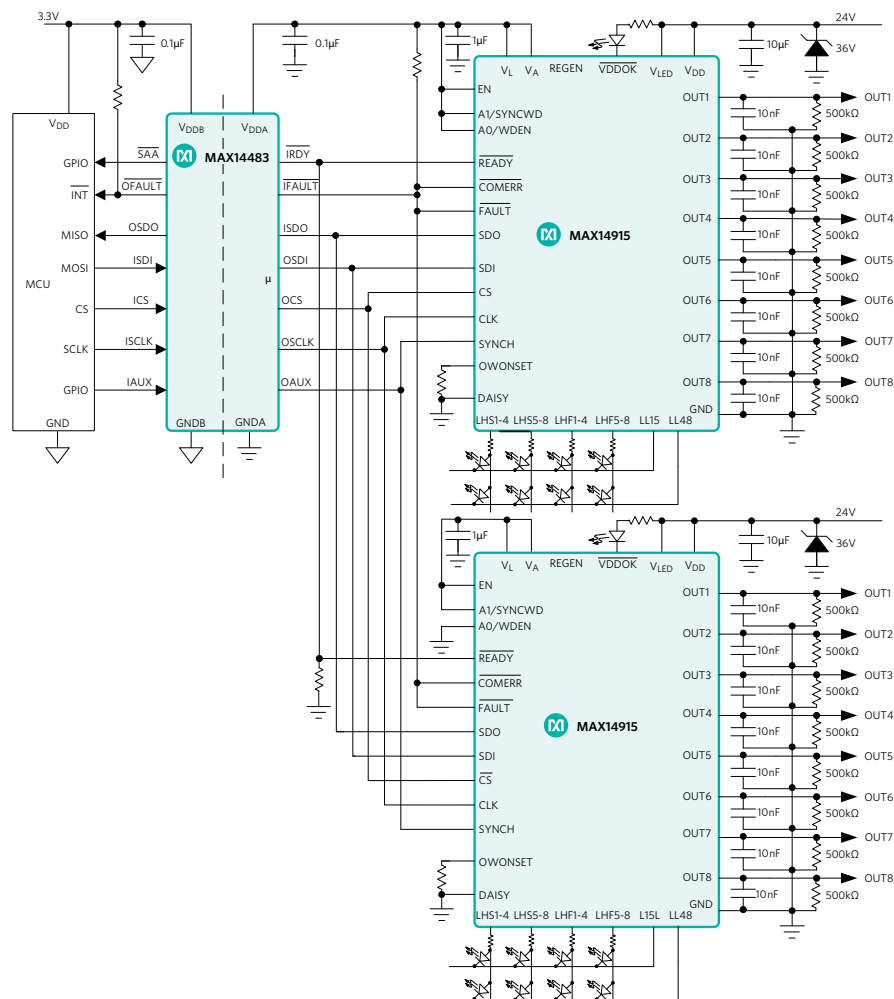

Figure 10. 16-Channel Isolated DO Application Using a 6-Channel Digital Isolator
built-in chip-addressing decoder to allow communication with multiple ICs (**Figure 10**) using a common SPI chip select (CS). The SPI interface also provides flexibility for global (and per-channel) configuration and diagnostics, including overvoltage and undervoltage detection, open wire/load detection, overload and current limiting reporting and for reporting thermal conditions. It can also detect open-wire and open-load conditions with switches in either state. The MAX14915 provides LED drivers that can be used to indicate the fault, status, and supply undervoltage conditions for each channel. Internal active clamps allow for fast turn-off of inductive loads while integrated line-to-ground and line-to-line surge protection require only a single TVS diode on V_{DD} .